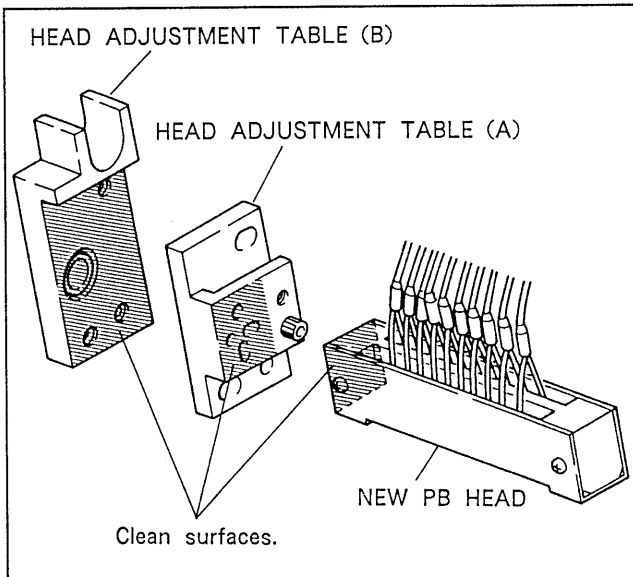

Fig. 6-14-3. Cleaning the Mounting Surface
- Clean the shaded area of each mounting surface shown in Fig. 6-14-3 by the cleaning cloth (or gauze) soaked with alcohol.